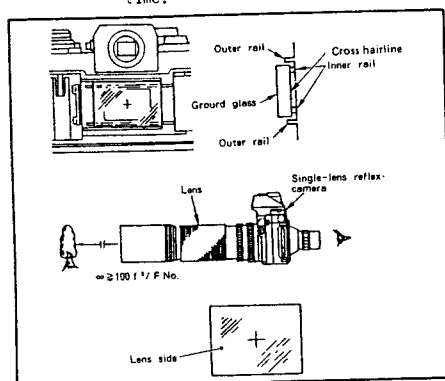

Fig. II-60
- (2) Secure the ground glass on the inside rail face by pressing it.
- (3) Shoot a scene at infinity. Then, enlarge the image on the ground glass surface with a magnifier to check the focusing state.
- * Note: For the distance for infinity, refer to the Fig. II-60.
- (4) After the above checking, remove the ground glass once, and mark the cross-hairline on the ground glass surface. Then, attach it to the camera again.